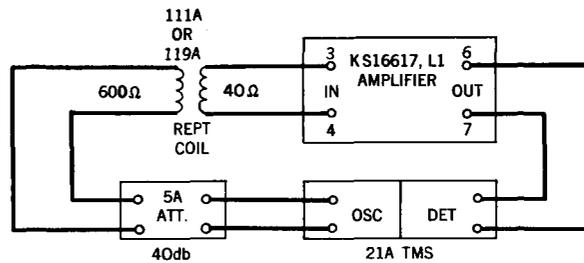

Fig. 5 - Test Setup for Low-Level Channel Gain-Frequency Test
6.01 The test setup for measuring the low-level channel is shown in Fig. 5. Chart IV outlines the step procedure to be followed when
2	Connect circuit as shown in Fig. 5.
6.02 The test setup for this test is the same as in Fig. 5 except for the 5A attenuator settings. Chart V outlines the test procedure to be followed in making this test.